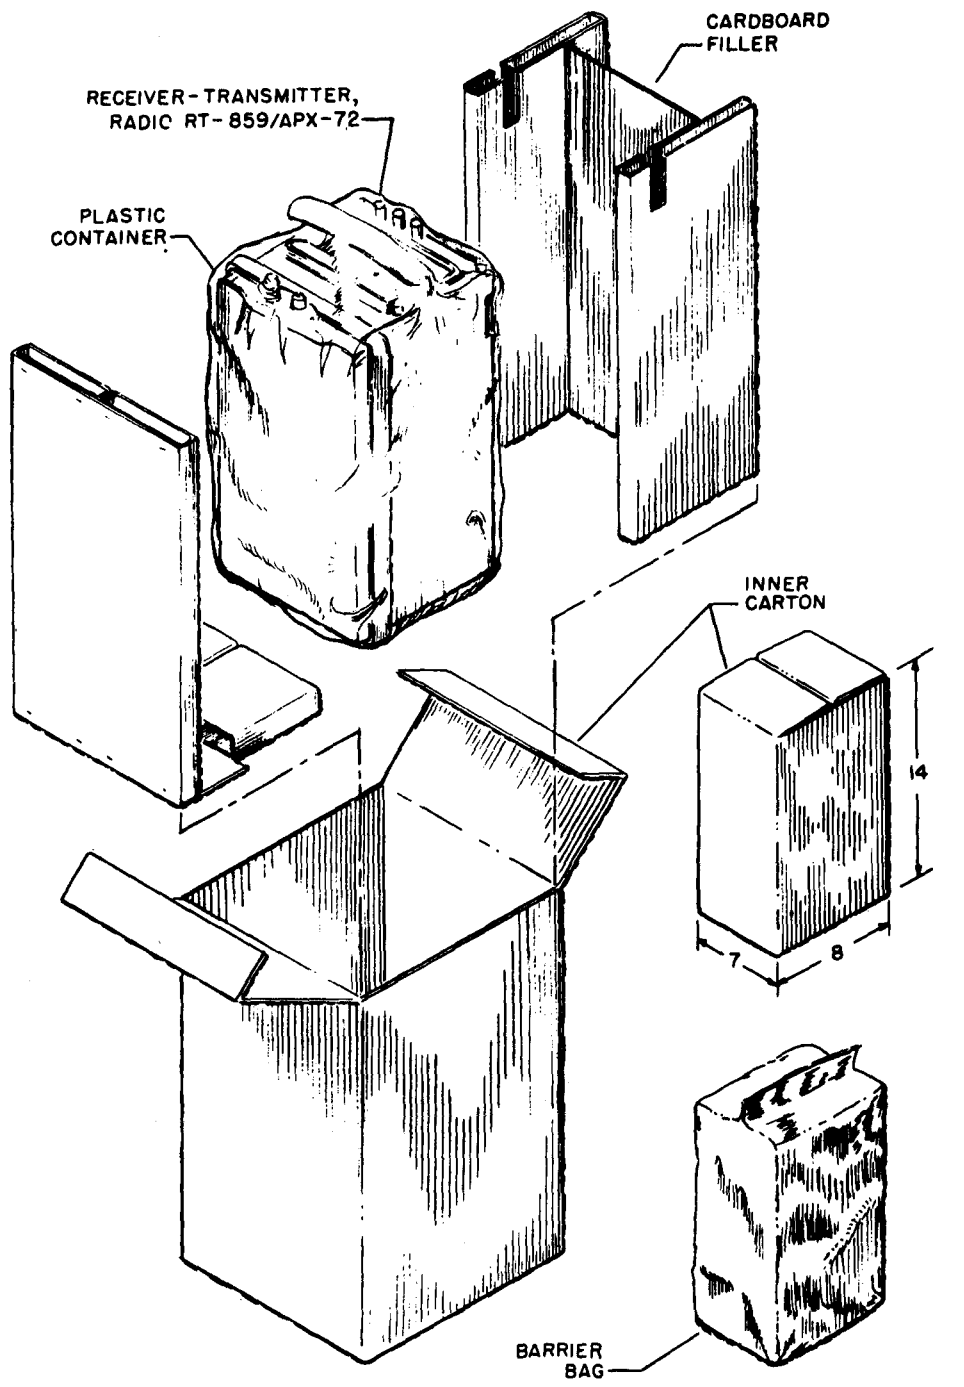

Figure 1-10. Typical packaging Receiver-transmitter, Radio RT-859/APX-72.
- (1) The RT-859/APX-72 is enclosed in a plastic bag, surrounded by contoured corrugated cardboard filler, placed in an inner packing carton, and then sealed in a barrier bag. The barrier bag and contents are placed in a shipping carton approximately 10 inches high, 16 inches deep, and 8½ inches wide. The volume of the complete package is 0.7 cubic feet and the gross weight approximately 22 pounds. A typical shipping configuration and its contents is shown in figure 1-10.
- (2) MT-3809/APX-72 and MT-3948/APX-72 are packaged and shipped individually in contoured corrugated cardboard as illustrated in figure